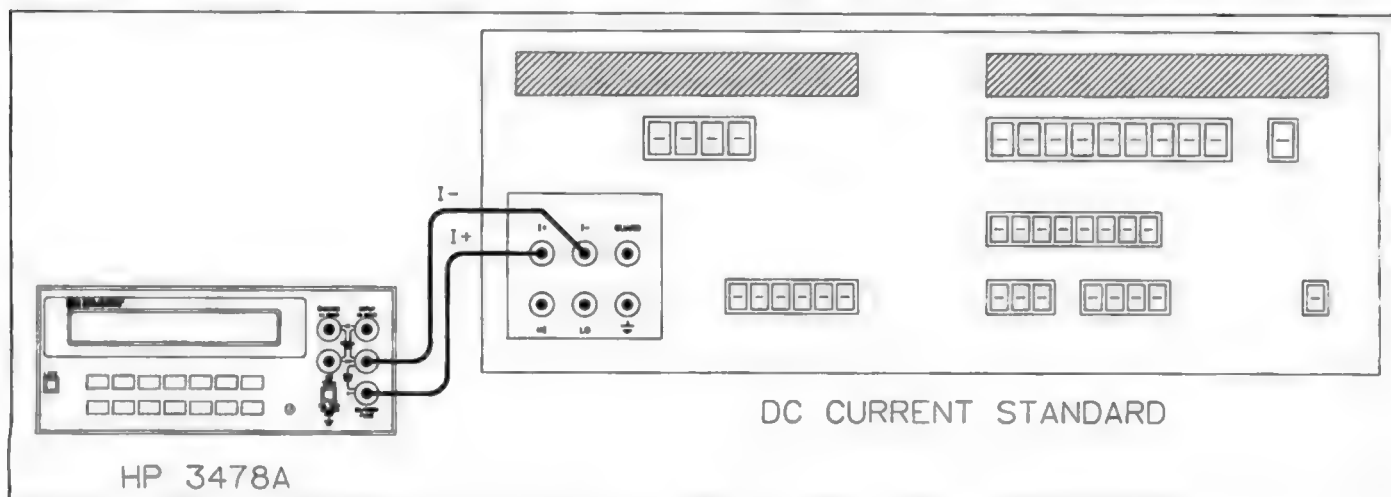

Figure 4-4. DC Current Test and Calibration Connections
f. Connect the DC Current Standard output to the 3478A LO and A INPUT terminals as shown in Figure 4-4. Set the DC Current Standard for an output of +100mA.